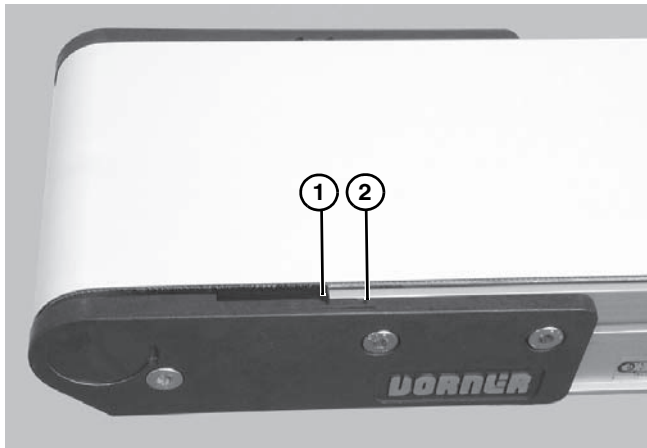

Figure 26
- Adjust head plate assembly so end of conveyor frame aligns with or between the head plate tensioning marks (**Figure 26, item 1 and 2**). Replace belt if proper tensioning can not be obtained while aligning the end of the conveyor frame with or between the tensioning marks. See NOTE.